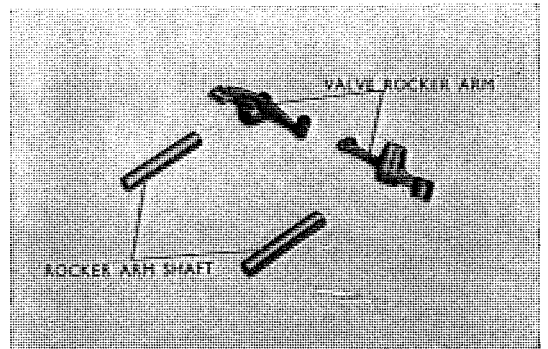

Fig. 3.31 Rocker arm shaft
2. When the rocker arm shaft is being assembled, the rocker arm should be matched to the oil pool groove. (Refer to Fig. 3.31)